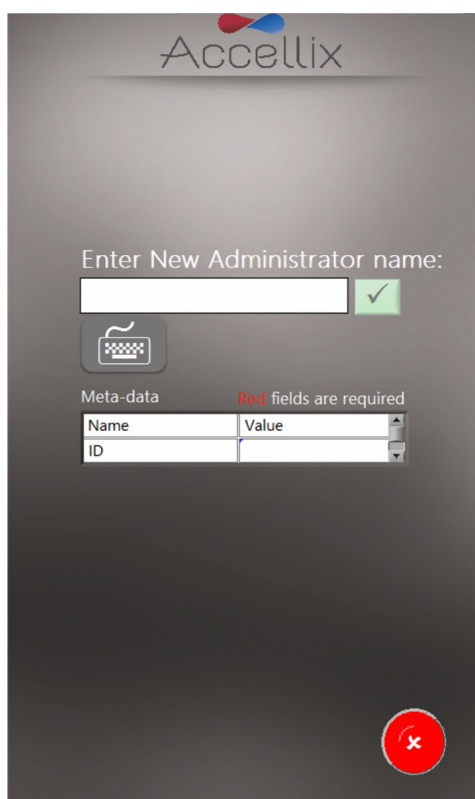

Figure 11: Add User screen
1. Tap the **Add** icon . The **Add User** screen (Figure 11) is displayed: